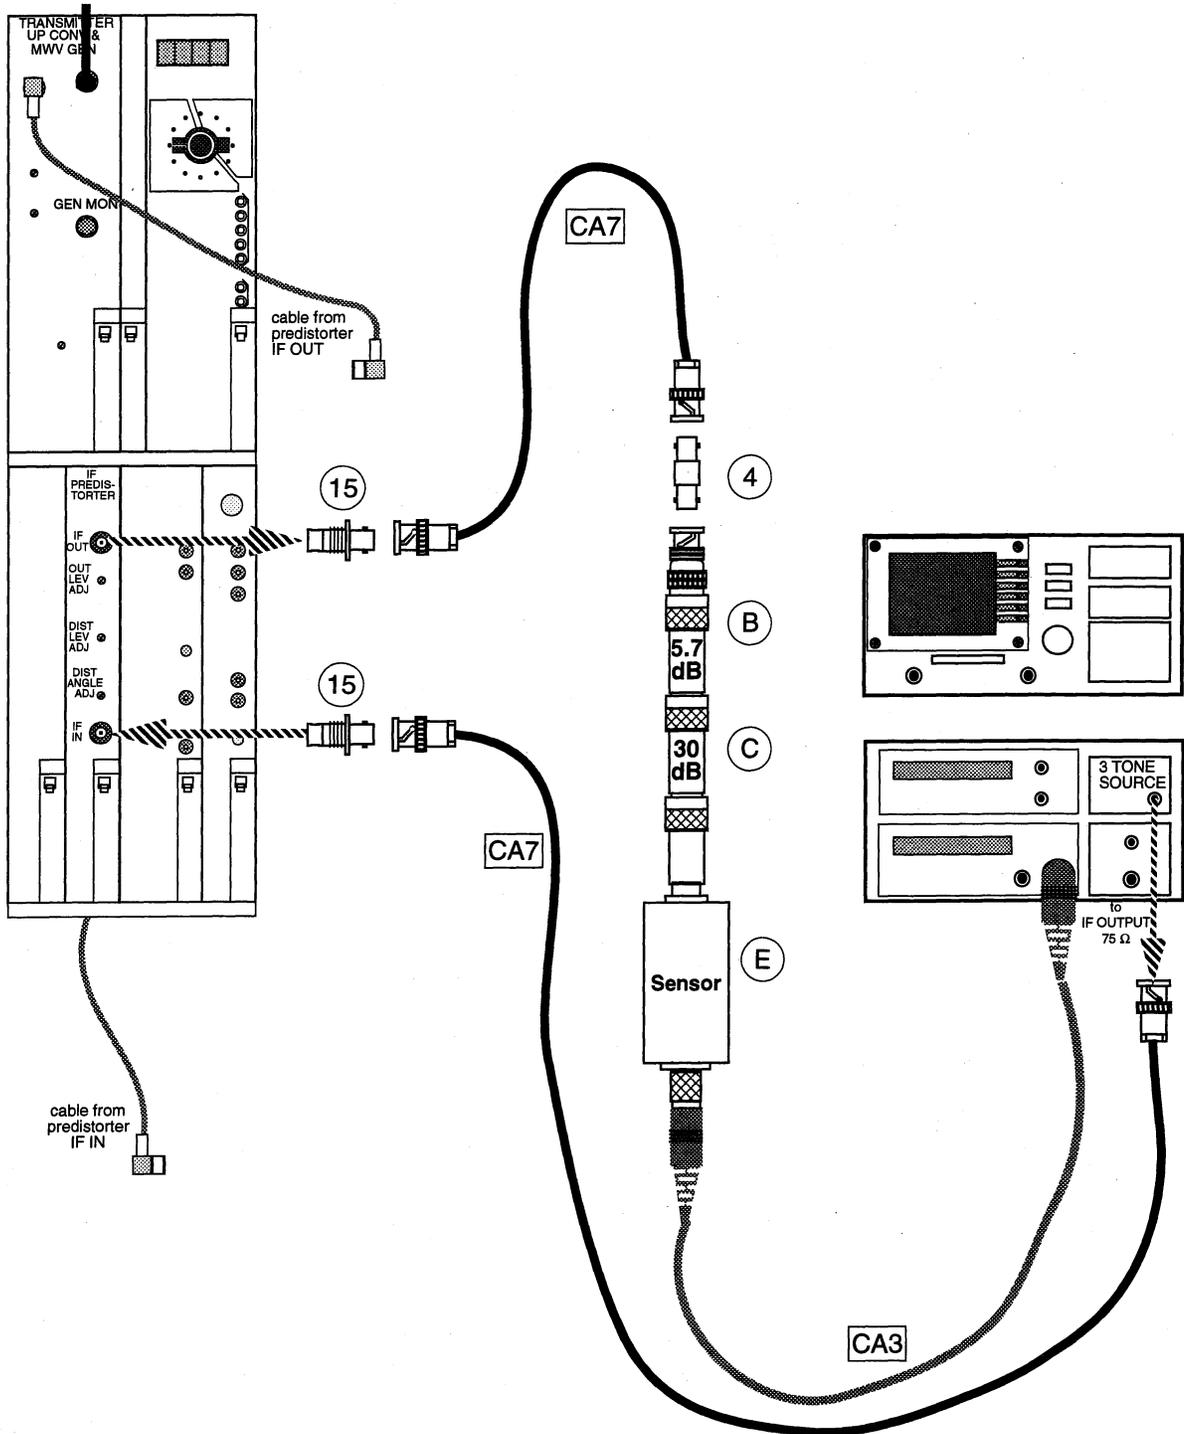

Figure 14. Establish 3-Tone Test Signal Level
- 7 Connect the test equipment as shown in Figure 14.